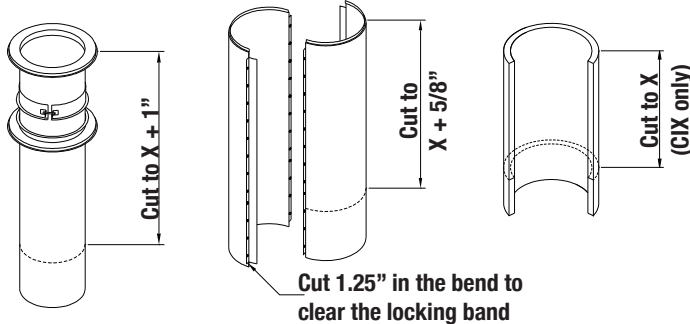

Figure 60 - Variable length, Installation step B
- b. Cut the inner wall at the dimension found at point 'a.' plus 1". Cut the split outer casing at dimension plus 5/8". Then cut the insulation band at dimension (CIX only). See **figure 60**.